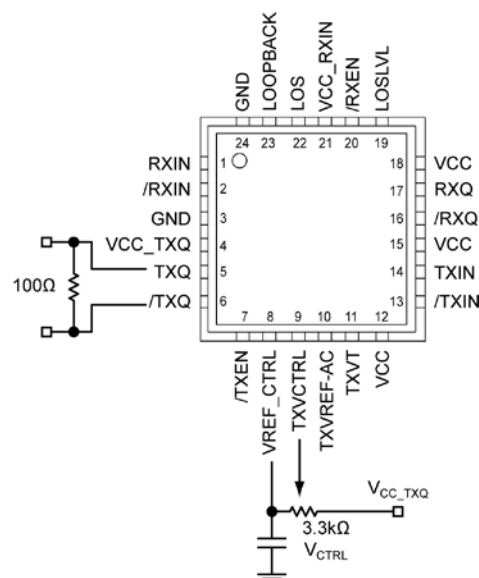

Figure 1b. Alternative Implementation
- Control of the transmitter output buffer swing can be obtained by using a variable resistor connected between V_{REF_CTRL} and V_{CC_TXQ} with a wiper connected to TXVCTRL as shown in Figure 1b